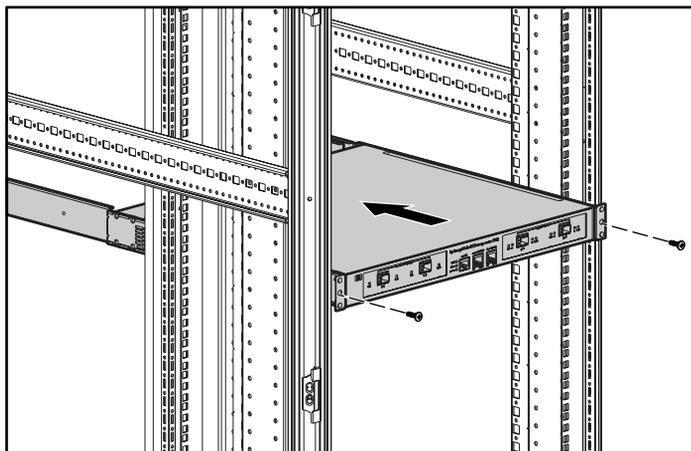

Figure 11: Installing the Storage Router into the rack
- Slide the Storage Router into the rack and secure the front of the rails using the rack screws (see Figure 11).